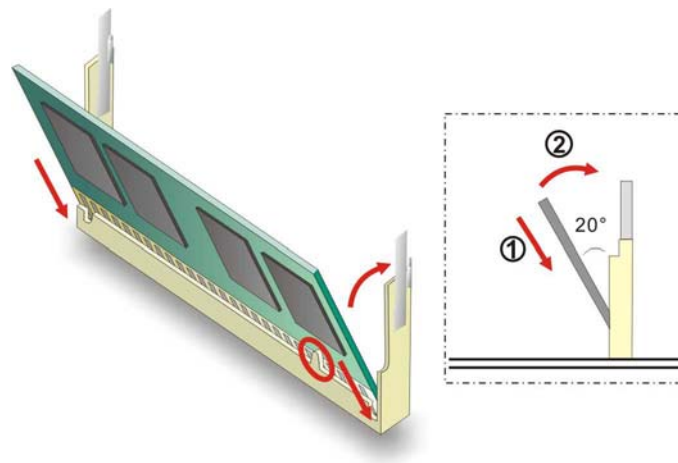

Figure 5-5: SO-DIMM Installation
To install a SO-DIMM into a SO-DIMM socket, please follow the steps below and refer to **Figure 5-5**.
- Step 3:** **Insert the SO-DIMM.** Push the SO-DIMM chip into the socket at an angle. (See **Figure 5-5**)
Step 4: Open the **SO-DIMM** socket arms. Gently pull the arms of the SO-DIMM socket out and push the rear of the SO-DIMM down. (See **Figure 5-5**)